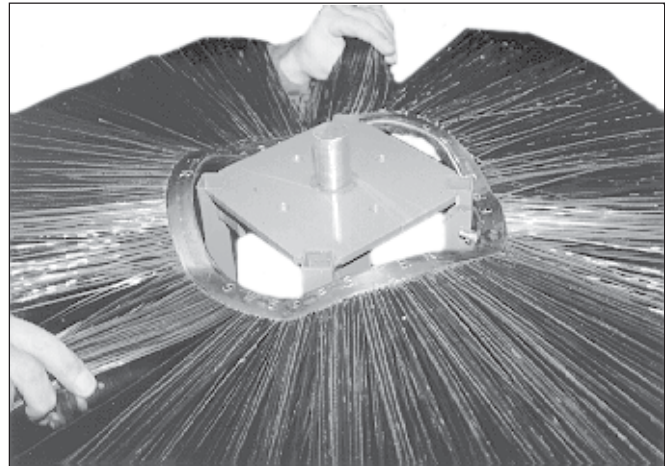

figure 1
- a. Slide the first section onto the core with the drive pins on either side of a tube. Make sure that the drive pins angle up. (figure 1)